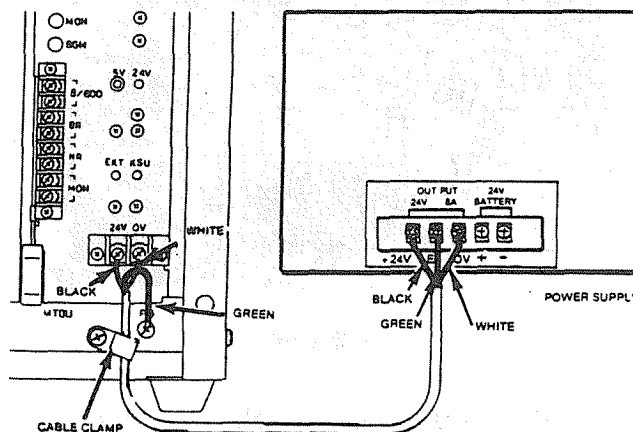

FIGURE 7
06.22 Disconnect the EPSA from the 115 VAC outlet. With the supplied cord, connect the EPSA to the MTOU PCB and MKSU ground (see Figure 7). Secure the power cord to the MTOU with the plastic cable clamp provided.